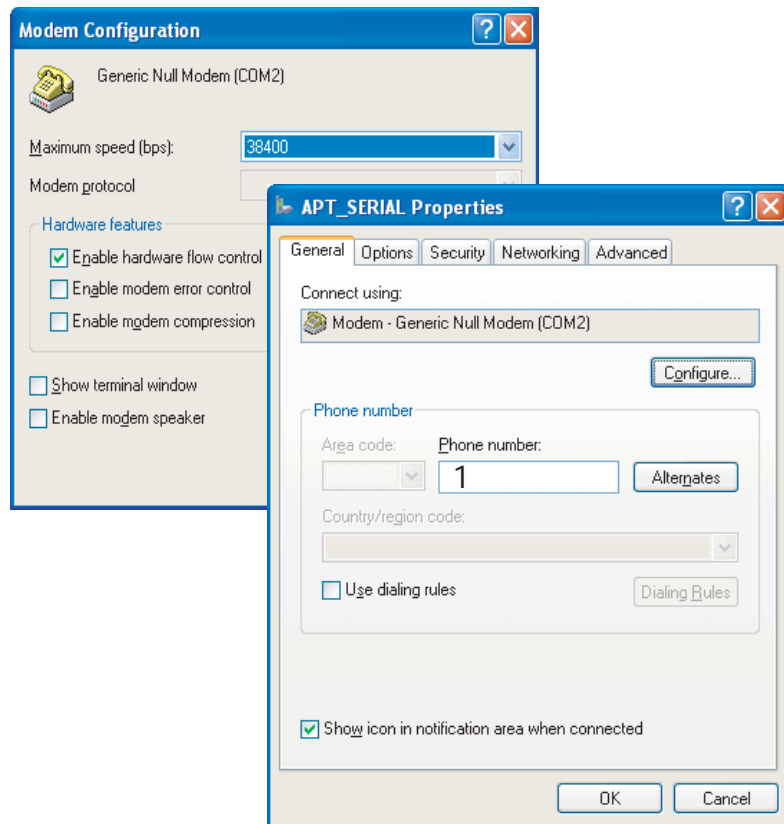

Figure 3.8: Windows XP Select Modem
- 12 Select the *Options* tab of Figure 3.8..
- Select the particular modem installed on your PC, shown in Figure 3.8.